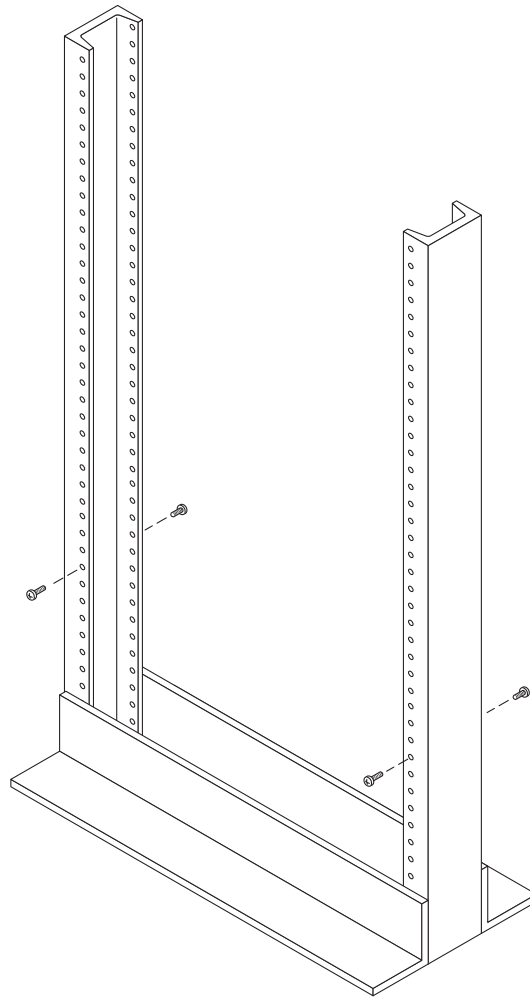

FIGURE 2-19 Inserting Screws in the Front and Back Mounting Holes
1. **Insert four 12-24 screws (two in each post) in the front and back mounting holes of the left and right posts (FIGURE 2-19). Do not tighten at this time.**